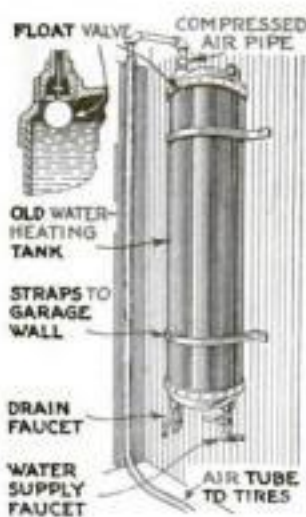

Fig. 1. You can use an old hot-water tank, piped as shown, to give you air pressure for pumping your tires
**I**N LOCALITIES where the water supply is delivered to your home at a pressure of fifty or sixty pounds you can arrange to let the water pressure do the work of pumping up your tires. All you need is an old water tank, the larger the better, and a few pieces of piping. Fig. 1 shows how the tank should be set up. Assuming that the tank is empty, when the water is allowed to